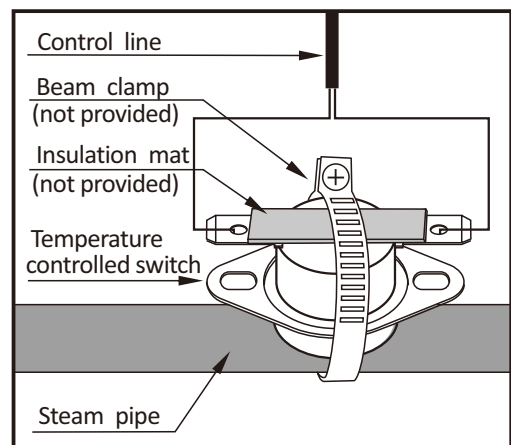

Figure 5
1. Place an insulation pad between the Hose Clamp and the temperature control switch. Secure the temperature control switch on the steam pipe (must be copper pipe) with a Hose Clamp. The location should be convenient to install (Refer to the Figure 5).